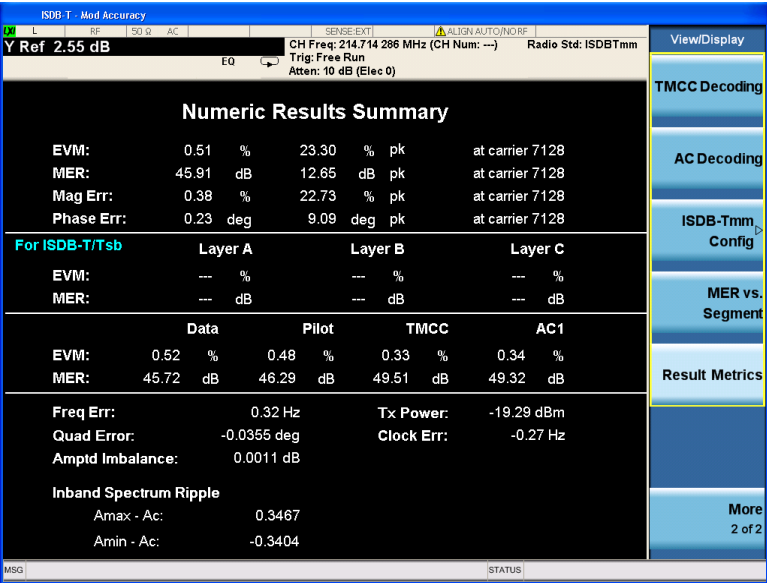

Figure 27. Result metrics view for ISDB-Tmm signals
View the result metrics (Figure 27)	[View/Display] {Result Metrics}
- **Result metrics** view (Figure 27):